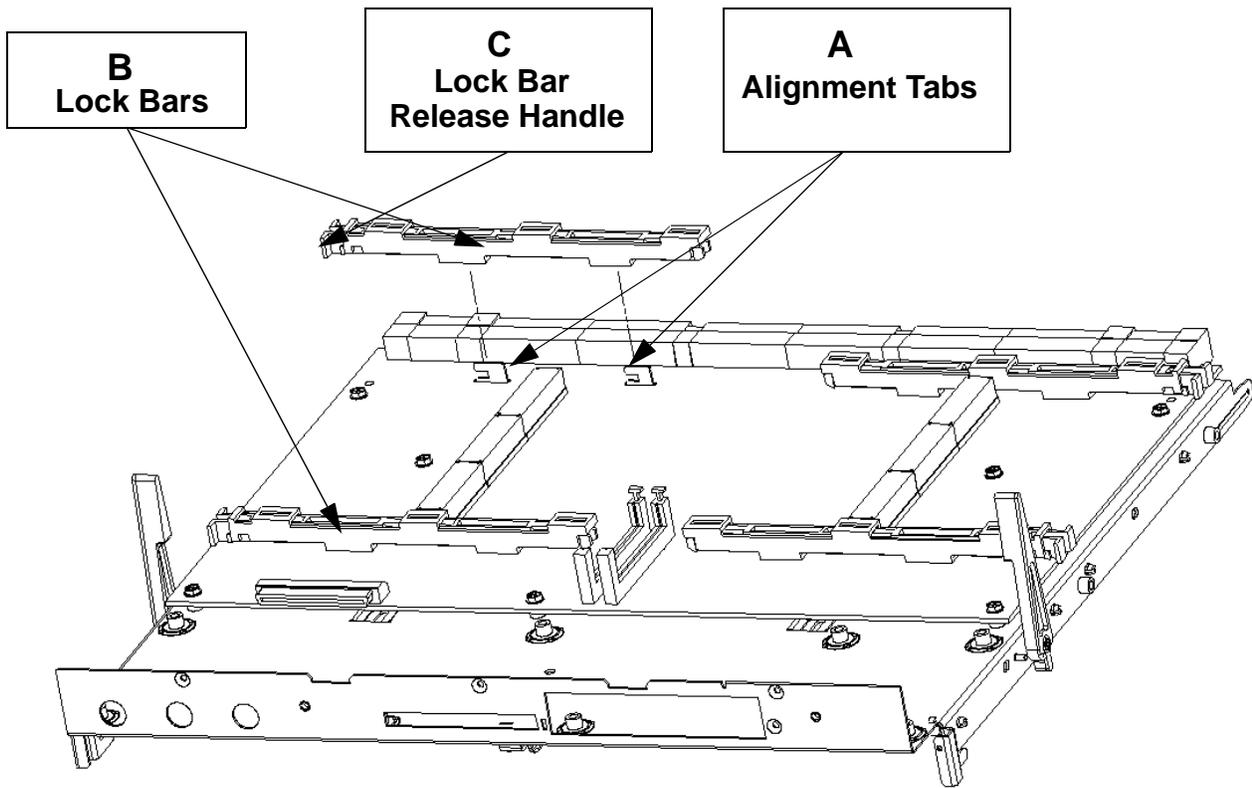

Figure 2-8: Profusion® Carrier Tray
Assembly of the Profusion carrier board, and mezzanine boards to the Profusion carrier tray, is performed outside the chassis. To start the assembly, install the Profusion carrier to the Profusion tray by aligning the eight tabs on the tray with the slots on the board (See Figure 2-8 (A)). Next, install the FPC board by passing the FPC switches through the switch openings in the tray and